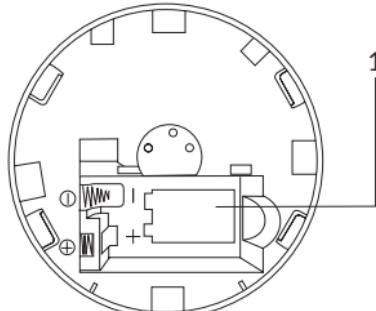

Fig. 3
6.2. Insert the power supply battery into the device (Fig. 3, item 1).